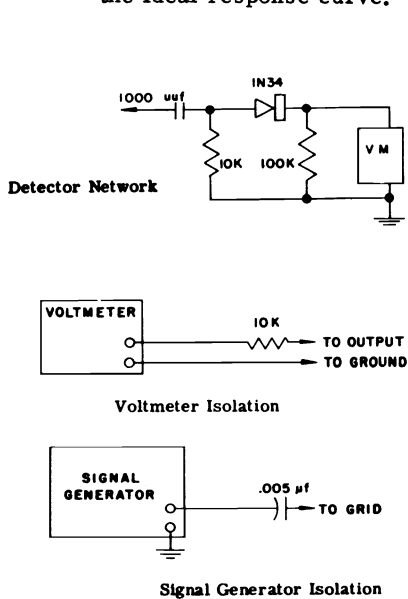

Figure 17 ISOLATION NETWORKS
1. An accurate CW generator covering the frequencies listed under Alignment Procedure. The generator must have an attenuation control which can be used to vary the level of its output signal. A .005 mfd disc type ceramic capacitor should be used to isolate the generator from the receiver as illustrated in figure 17. If the generator has sufficient output it may be possible to feed the signal to the tuner converter by clipping the "hot" lead directly to the converter tube shield. The tube shield must be raised from the socket and kept in position where it cannot slip down and ground out the generator signal.